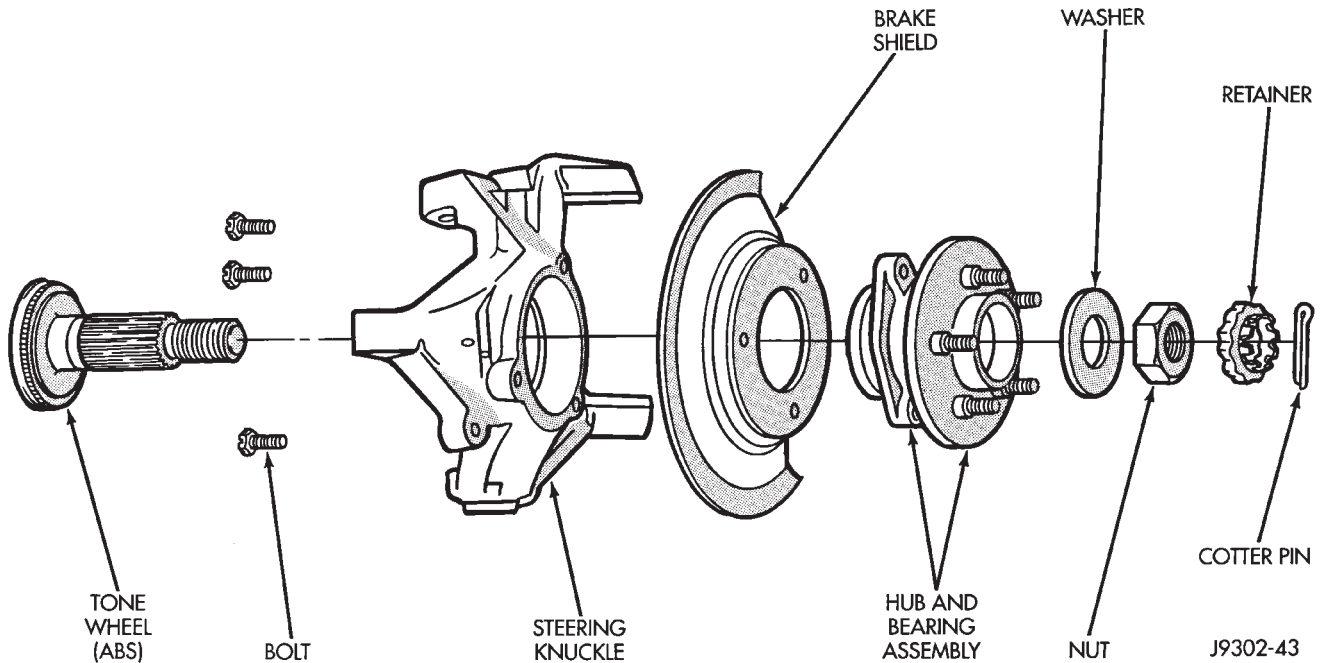

Fig. 18 Hub, Knuckle and Axle Shaft
- (1) Raise and support the vehicle.
- (2) Remove the wheel and tire assembly.
- (3) Remove the brake caliper and rotor. Refer to Group 5, Brakes, for proper procedures.
- (4) Remove ABS wheel speed sensor, if necessary. Refer to Group 5, Brakes, for proper procedures.
- (5) Remove the cotter pin, nut retainer, and axle hub nut (Fig. 18), if necessary.
- (9) Remove the brake rotor shield from the hub bearing or knuckle (Fig. 18).
- (1) Thoroughly clean the axle shaft (Fig. 18) and apply a thin film of Mopar® Wheel Bearing Grease, or equivalent, to the shaft splines, seal contact surface, and hub bore.
- (2) Install the brake rotor shield to the knuckle.
- (3) Install the hub bearing and axle shaft assembly, or axle shaft, into the housing and differential side gears. Avoid damaging the axle shaft oil seals in the axle housing.
- (4) Install the hub bearing, if necessary.
- (5) Install the hub to knuckle bolts and tighten to 102 N·m (75 ft. lbs.) torque.
- (6) Install the hub washer and nut, if necessary. Tighten the hub nut to 237 N·m (175 ft. lbs.) torque. Install the nut retainer and a new cotter pin (Fig. 18).
- (7) Install ABS wheel speed sensor, if necessary. Refer to Group 5, Brakes, for proper procedures.
- (8) Install the brake rotor and caliper. Refer to Group 5, Brakes, for proper procedures.
- (9) Install the wheel and tire assembly.
- (10) Remove support and lower the vehicle.